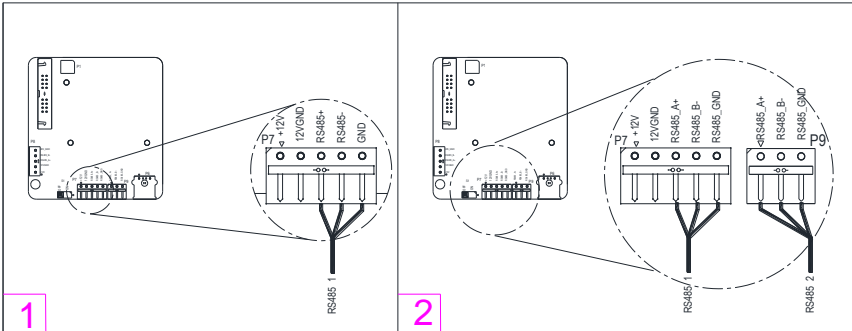

Figure 3-34 RS485 Connection of Communications Board
inverters, the cables are terminated to the same 5-pin connector and 3-pin connector. Figure 3-34 shows a single inverter communication connection in (1) and a network configuration in (2).